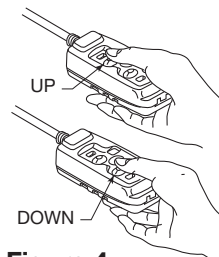

Figure 4
- 1) Press the "UP" bottom on the remote control switch. The piston advances while the button is pressed. To retract the piston, press and hold the "Down" button. (See figure 4).